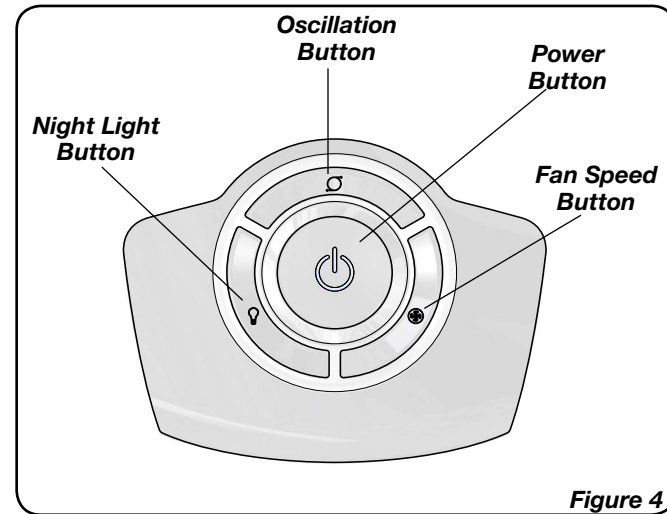

Figure 4
**OPERATION** (Figure 4)
This Fan may be operated by the local controls located on top of the unit (as shown in *Figure 4* or by the Remote Control (shown in *Figure 5*).